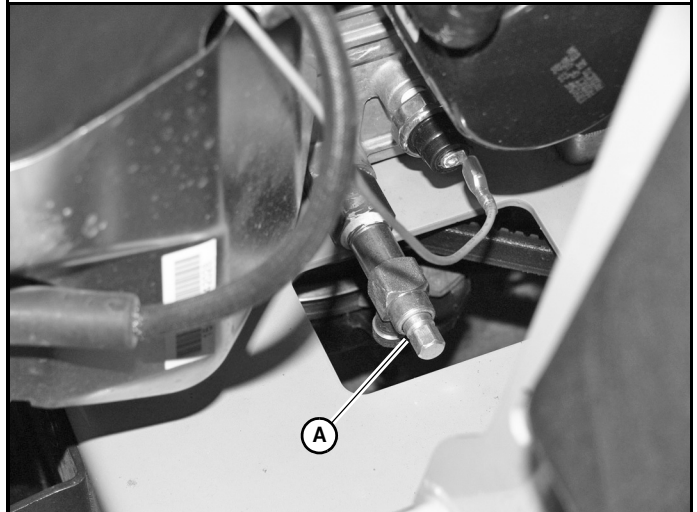
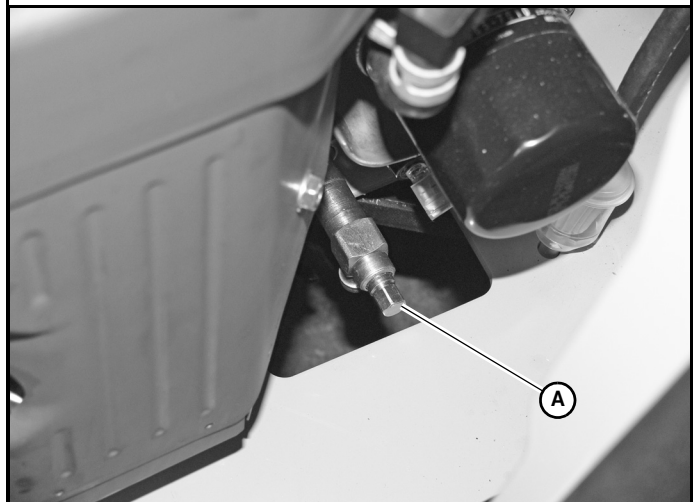

Figure 4-9
Figure 4-10
1. Locate the oil drain valve on the engine. Figure 4-9 & Figure 4-10